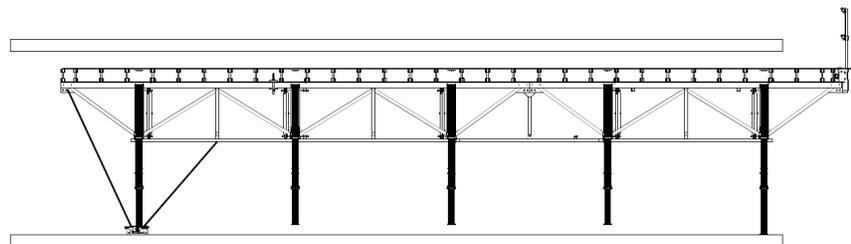

Fig. A3.05
5. Remove lowering devices. Brace the props with the swivel castors by means of tension straps. (Fig. A3.05)